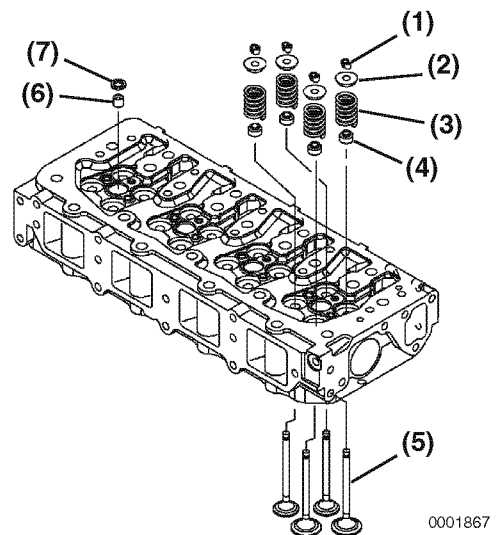

Figure 6-69
4. Place all the valves (**Figure 6-69, (5)**) in their proper location in the cylinder head.
5. Place the cylinder head on the workbench with the combustion side down. Install the valve spring (**Figure 6-69, (3)**) and spring retainer (**Figure 6-69, (2)**).
7. Insert the valve keepers (**Figure 6-69, (1)**) and slowly release the tension in the valve spring. Repeat the steps on all the remaining valves.